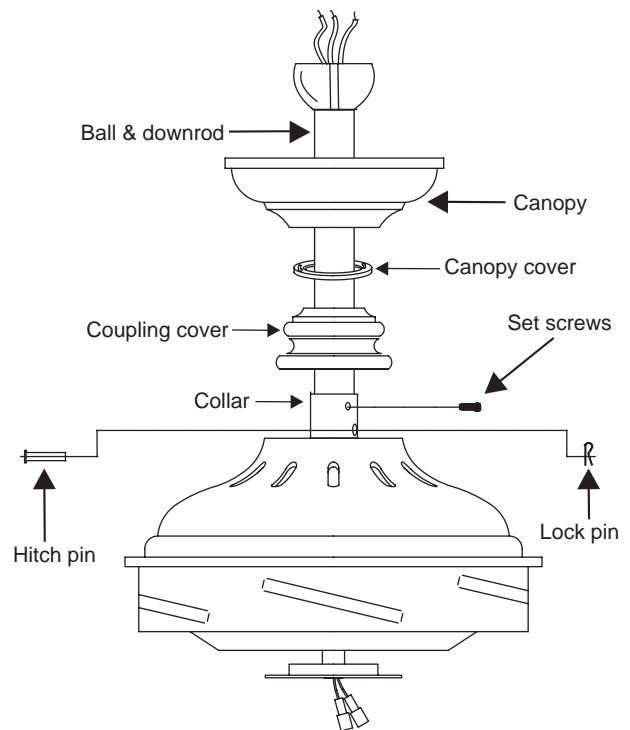

Figure 7
Step 6. Route wires exiting from the top of the fan motor through the coupling cover, canopy cover, canopy and then through the ball / downrod. (Fig. 7)
Step 7. Align the holes at the bottom of the downrod with the holes in the collar on top of the motor housing (Fig.7). Carefully insert the hitch pin through the holes in the collar and downrod. Be careful not to jam the pin against the wiring inside the downrod. Insert the locking pin through the hole near the end of the hitch pin until it snaps into its locked position. (Fig.7)
Step 8. Tighten two set screws on top of the fan motor firmly. (Fig. 7)